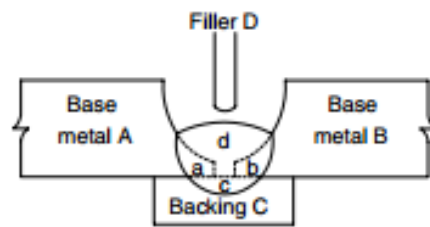

Figure 1.
- a) Given the figure 1. below, considering 304 SS as the base metal for A and B, while using 308L SS as the filler metal D, compute the dilution percentage for the following scenarios: